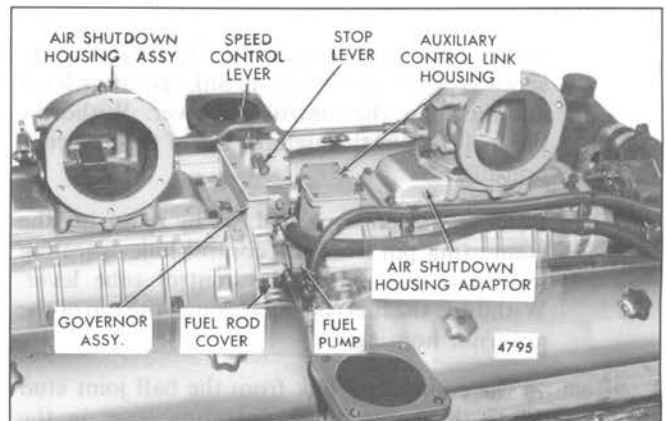

Fig. 6 - Limiting Speed Governor Mounting (12V and
1. Disconnect the linkage attached to the governor speed control and stop levers (Fig. 6).